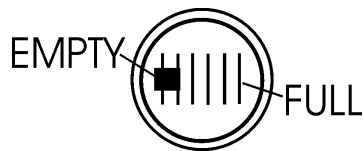

Figure 14. Fuel Gauge
1. Read the fuel gauge located on top of the generator (Figure 14) to determine if the fuel level is low.